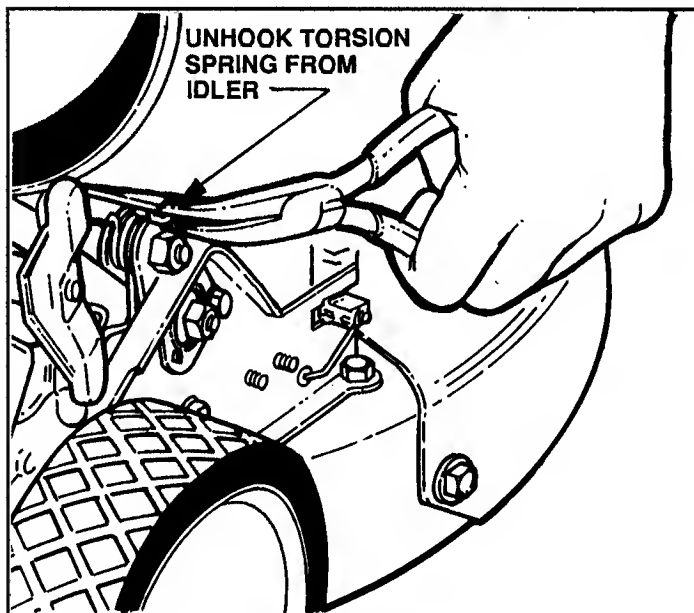

FIGURE 2.20
3. Using a pair of needle nose pliers, unhook the torsion spring from the idler. See Figure 2.20.